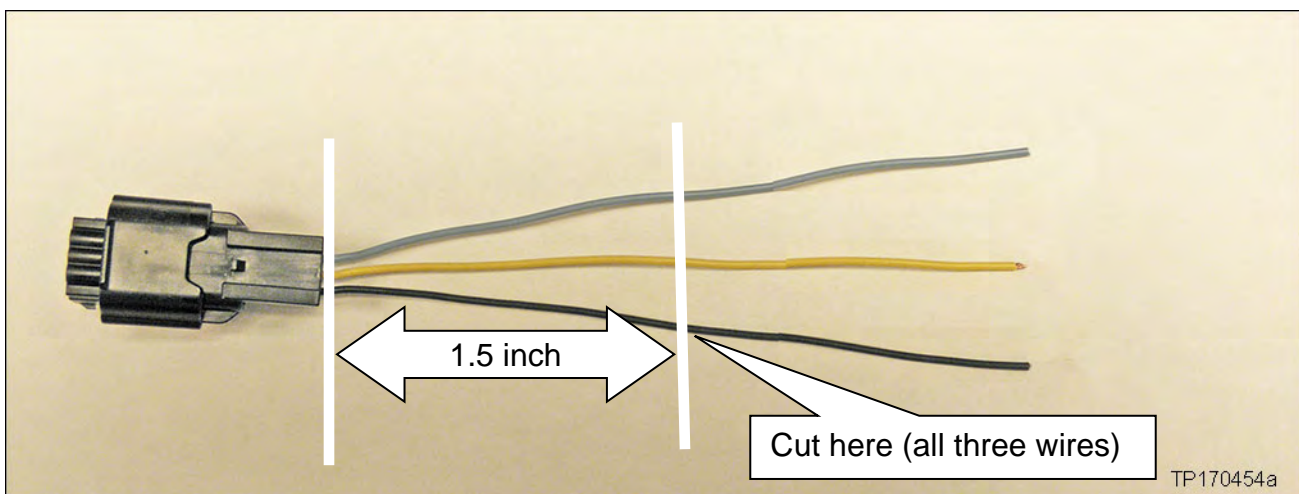

Figure 4
6. On the **new** connector - measure 1.5 inch from the connector and cut the wires (see Figure 4).